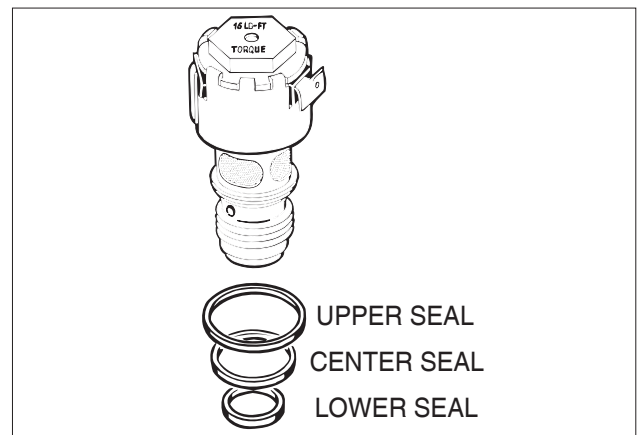

FIG. 22
2. Remove and discard the rubber seal rings (ISL holds three seal rings and ISL03 holds only two) (Fig. 22). If the lower ring (ISL only) stays in the bottom of the housing solenoid bore, remove with a seal pick.